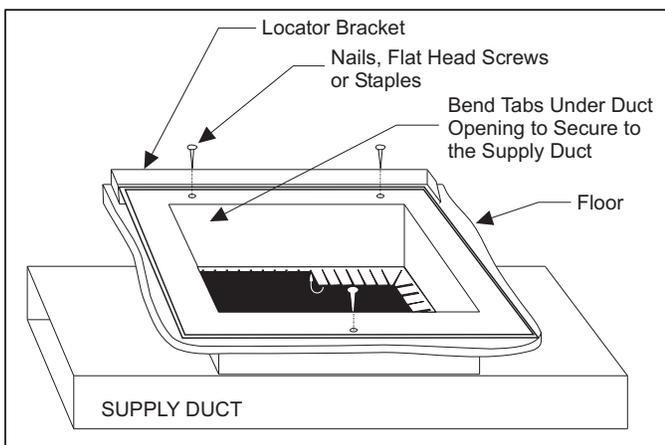

FIGURE 7: Duct Connector Tab Attachment (7990 Series)
3. Place locating bracket (supplied with the duct connector) to the rear of the floor area for the furnace. See Figure 7.